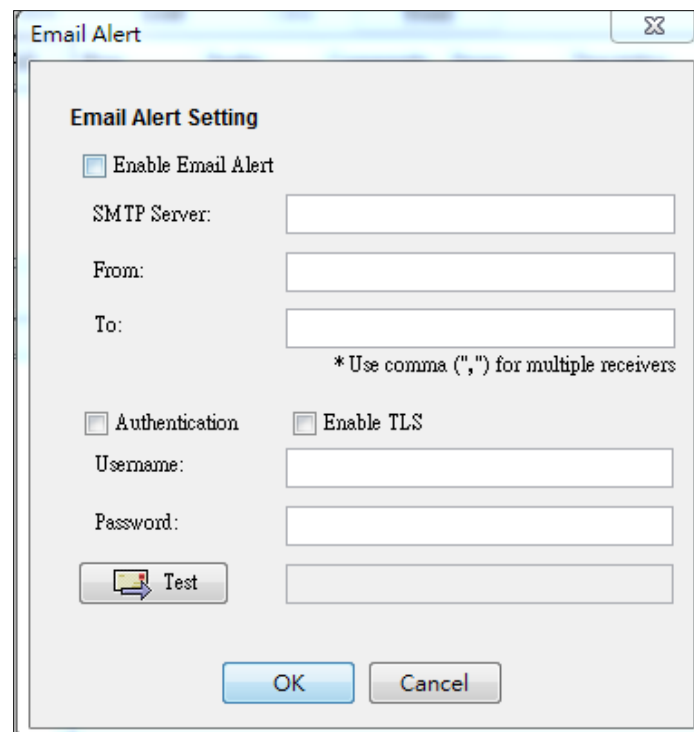

Figure 13-3
- **Email:** displays an “Email-Alert Settings” dialog box (see Figure 13-3). Fill the “SMTP server”, “From (email address)” and “To (email address)” fields. The “From” and “To” addresses must be valid in the SMTP server. If the SMTP server requires authentication, please enter the username and password. Once entering needed information, click the **Test** button to verify if your email works properly.